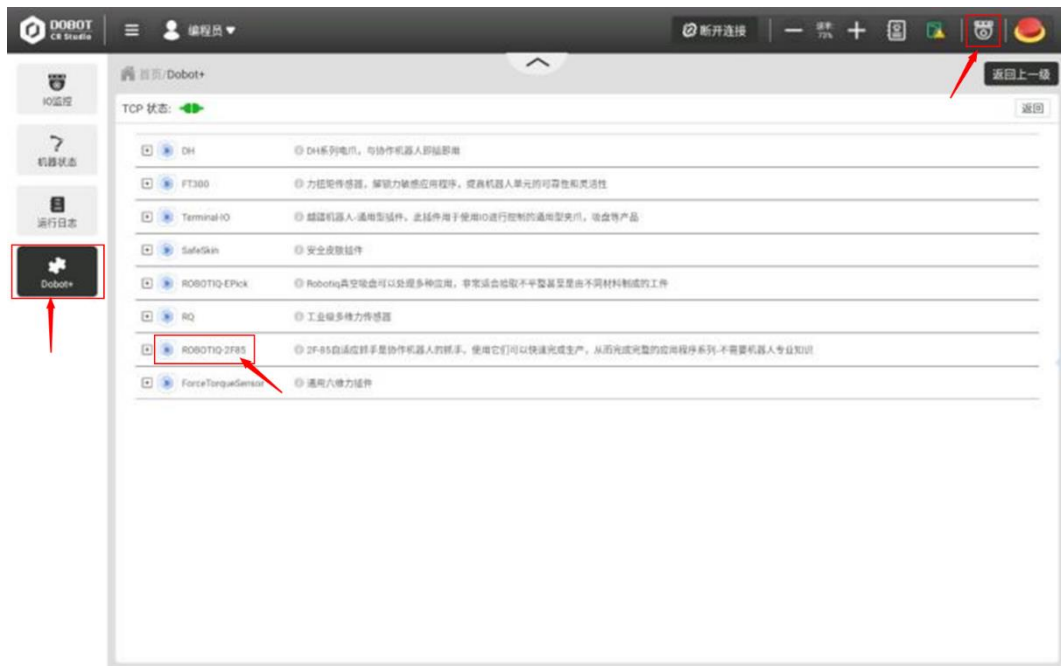

Figure 3.7 Install ROBOTIQ-2F85 plug-in
Step 1 Click **Monitor** or  to enter the monitor page. Select **Dobot+** in the left-side menu, as shown in Figure 3.7. Double click **ROBOTIQ-2F85** plug-in to install it.